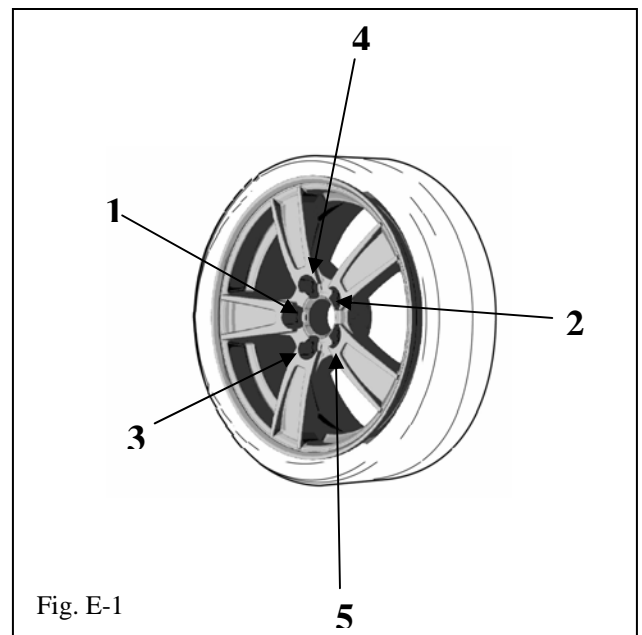

Fig. E-1
- ⚠ 1. Install wheel/tire assembly on vehicle. Hand start the lugnuts during installation. Tighten lugnuts in sequence 1 through 5. Ensure that the socket does not scuff the wheel. Tighten to 76 lbf•ft (103 N•m) using a torque wrench. (Fig. E-1)